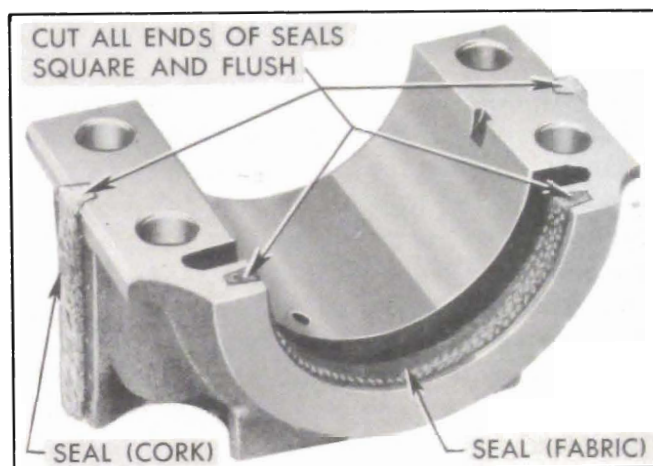

Figure 2-31—Rear Bearing Oil Seals
(1) An oil slinger machined on the crankshaft rotates in a groove formed in crankcase and bearing cap just to rear of the rear crankshaft bearing. This oil collecting groove drains back into the crankcase.
(2) Braided fabric seals are pressed into grooves formed in crankcase and bearing cap to rear of the oil collecting groove. See figure 2-31.
(3) Cork seals are located at the vertical joints between the bearing cap and the crankcase.
The braided fabric seal can be installed in crankcase only when crankshaft is removed; however, the seal can be replaced in cap whenever cap is removed. Remove old seal and place new seal in groove with both ends projecting above parting surface of cap. Force seal into groove by rubbing down with hammer handle or smooth wood stick until seal projects above the groove not more than $\frac{1}{16}$ ". Cut ends off flush with surface of cap, using sharp knife or razor blade. See figure 2-31. **CAUTION:** *The engine must be operated at slow speed when first started after new braided seal is installed.*